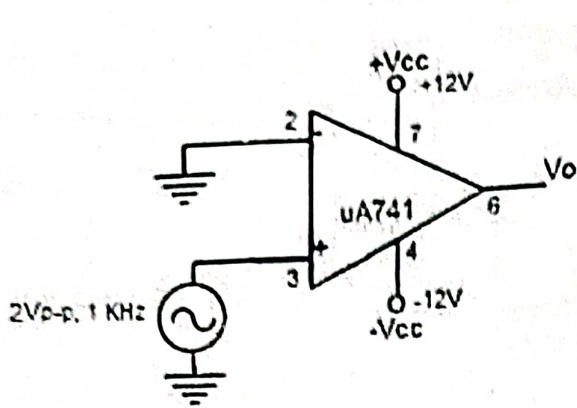

Figure6.2 Open loop non-inverting amplifier
4. Change the circuit as given in Figure6.2.